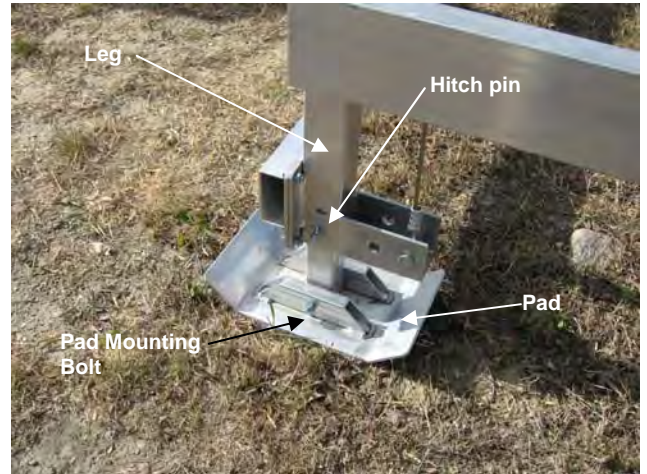

FIG. 3
1. Bolt pad into leg. Use the 7/16"x 5 1/2" bolt and nut on each pad/leg assembly. Firmly tighten at this time. See Fig 3.
2. Insert leveling legs into side frames. On models 3000. See Fig. 3.
3. Secure with hitch pin and cotter key. See Fig. 3.